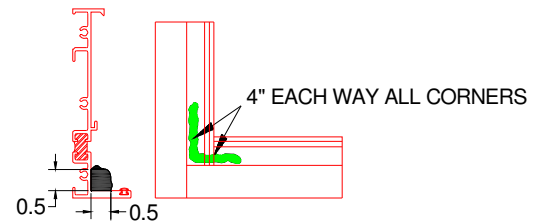

Figure 14:
3. All four corners must be sealed 1/2" x 1/2" x 4" (Figure 14) then set glass into opening.